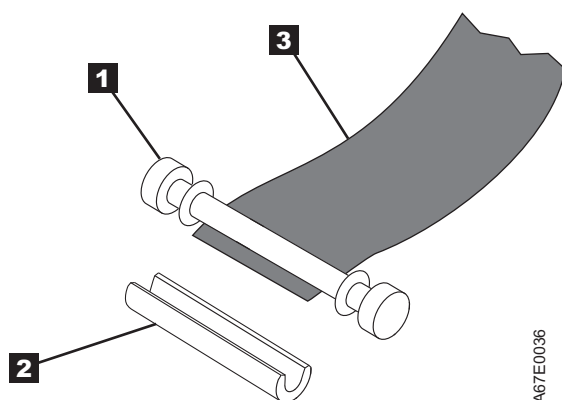

Figure 4-14. Removing the C-clip from the leader pin. Use your fingers to push the C-clip from the leader pin.
5. On the leader pin (**1** in Figure 4-14), locate the open side of the C-clip **2** . The C-clip is a small black part that secures the tape **3** to the pin.